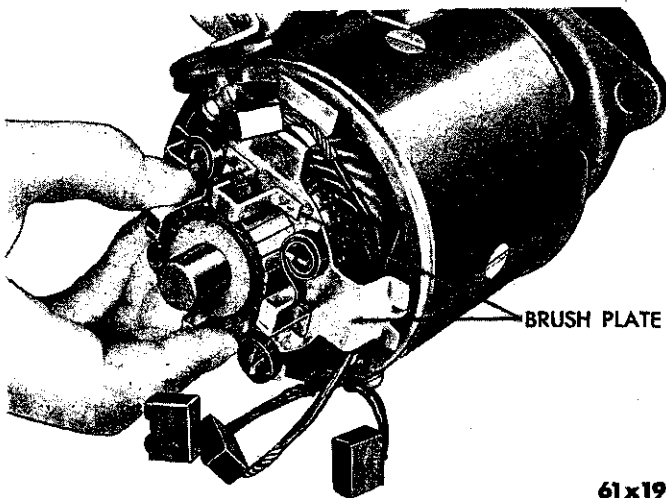

Fig. 2—Removing the Brush Ring
(2) Remove the thrust washers from the armature shaft.
(3) Lift the brush holder springs and remove the brushes from the brush holders.
(4) Remove the brush plate (Fig. 2).
(5) Disconnect the field coil leads at the solenoid